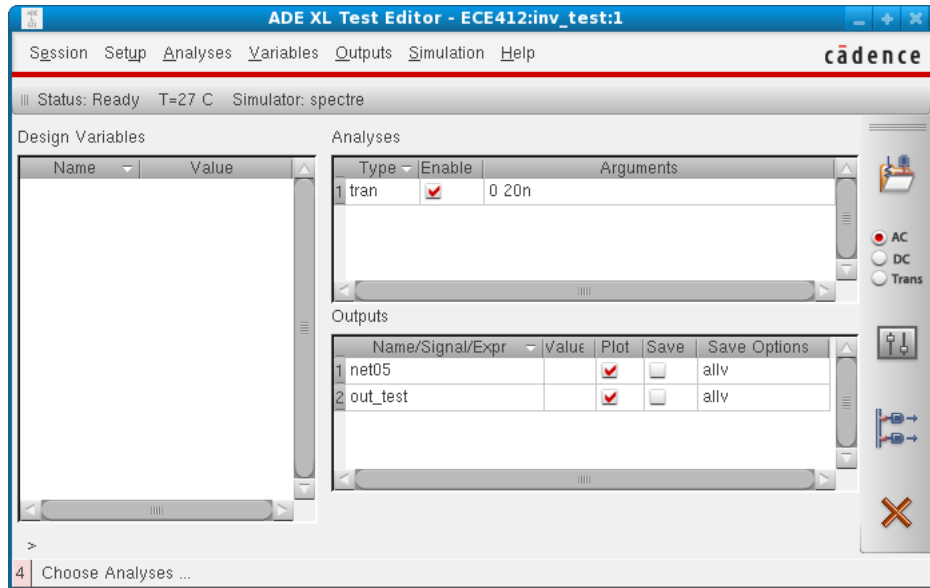

Figure 14: ADE XL Test Editor with new settings
8. Your simulation environment is ready now and it should look like figure 14.